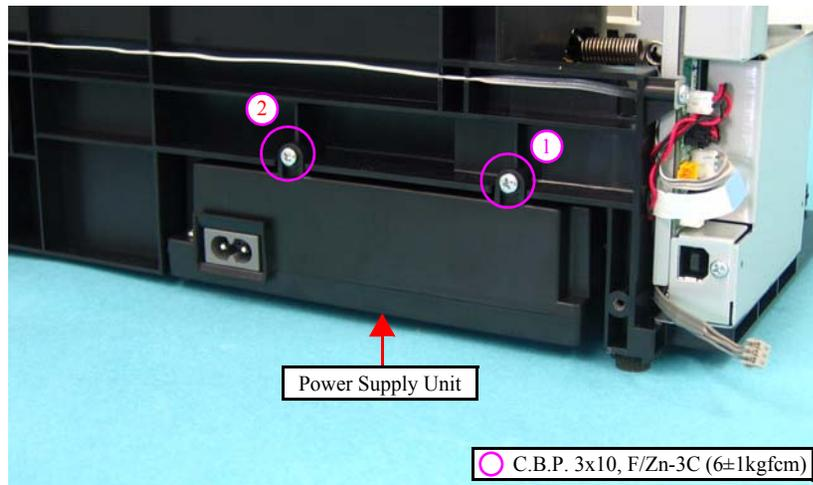

Figure 4-21. Removing Power Supply Unit
- Tighten the screws in the order given in Figure 4-21.